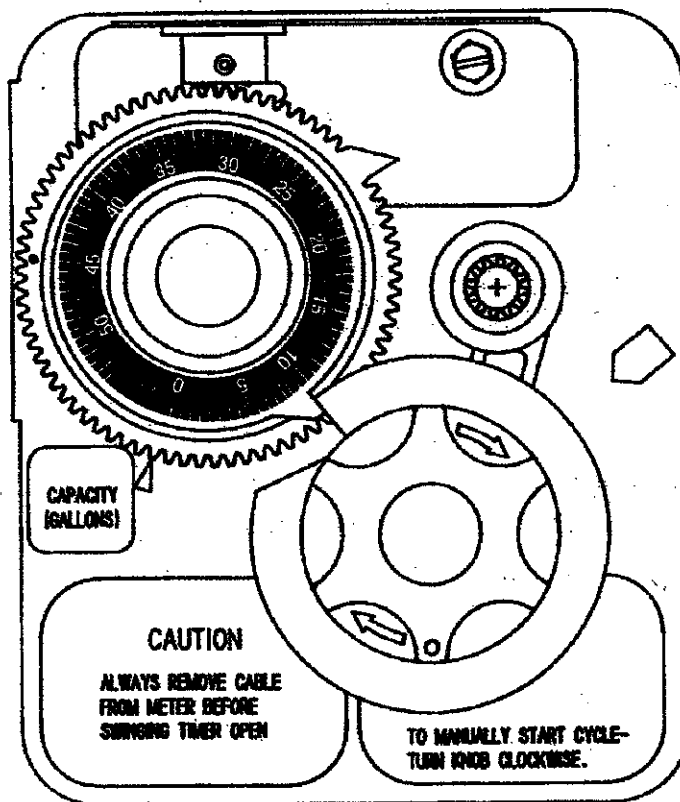

Figure 3
1. The control valve **must be in the service position!** If needed, rotate manual regeneration knob on timer clockwise until white dot aligns with raised arrow. (See Figure 3.)